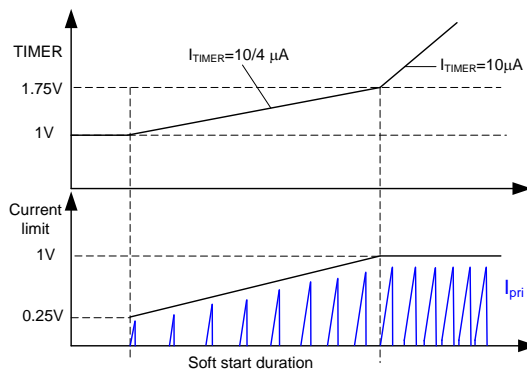

Figure 6: Soft Start
Soft start is externally programmable with a capacitor on TIMER. As this capacitor charges from 1V to 1.75V with 1/4 of the normal charge current, the peak-current limit threshold increases gradually from 0.25V to 1V while increasing the switching frequency gradually. Figure 6 shows the typical soft-start waveform. The TIMER capacitor determines the start-up duration as shown in Equation (2):